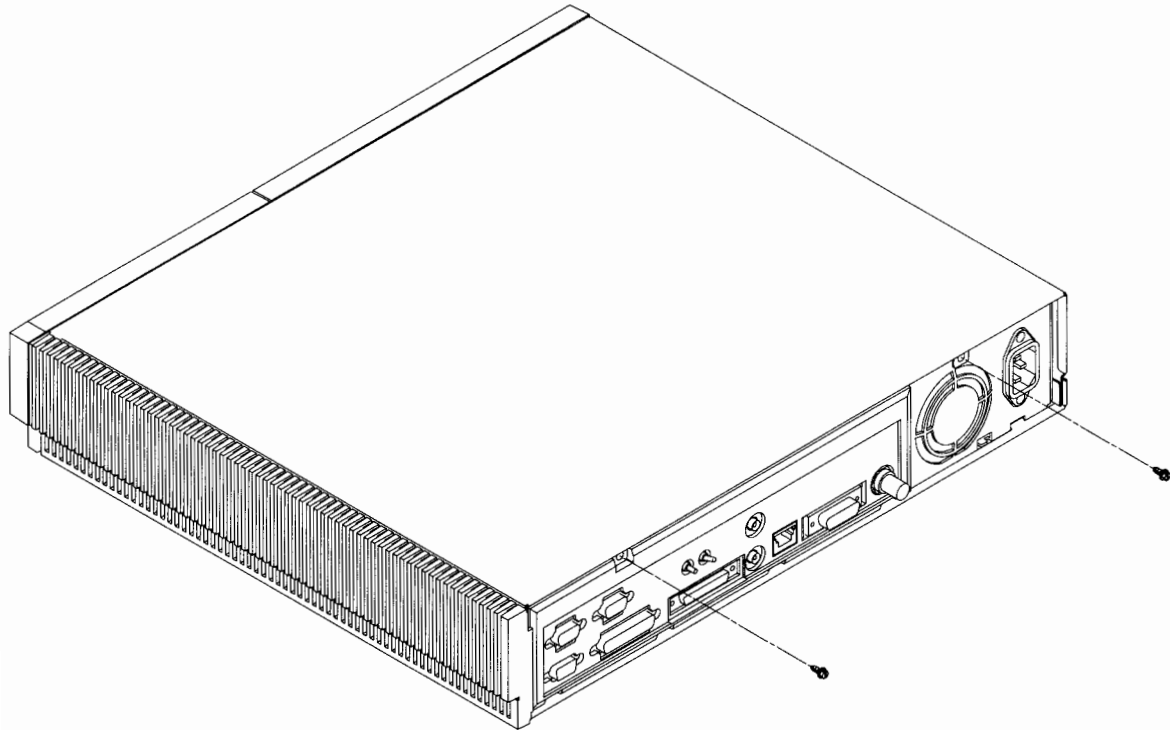

Figure B-2. Removing the Top Cover Screws
2. Use a #2 Phillips screwdriver to remove the two screws that hold the top cover in place, as shown in Figure B-2.
3. Replace the two screws that hold the top cover in place. (See Figure B-2.)